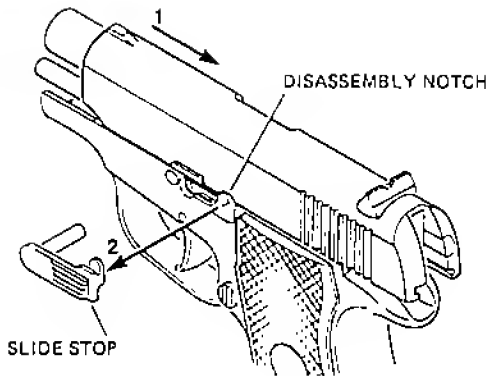

FIGURE 6-REMOVING SLIDE STOP
2. Pull slide to rear until lug on slide stop is opposite disassembly notch. (See Figure 6). Push rounded end of pin of slide stop (on right of receiver) inward enough so that slide stop sticks out from left side of pistol.
3. Lift out slide stop. (See Figure 6).